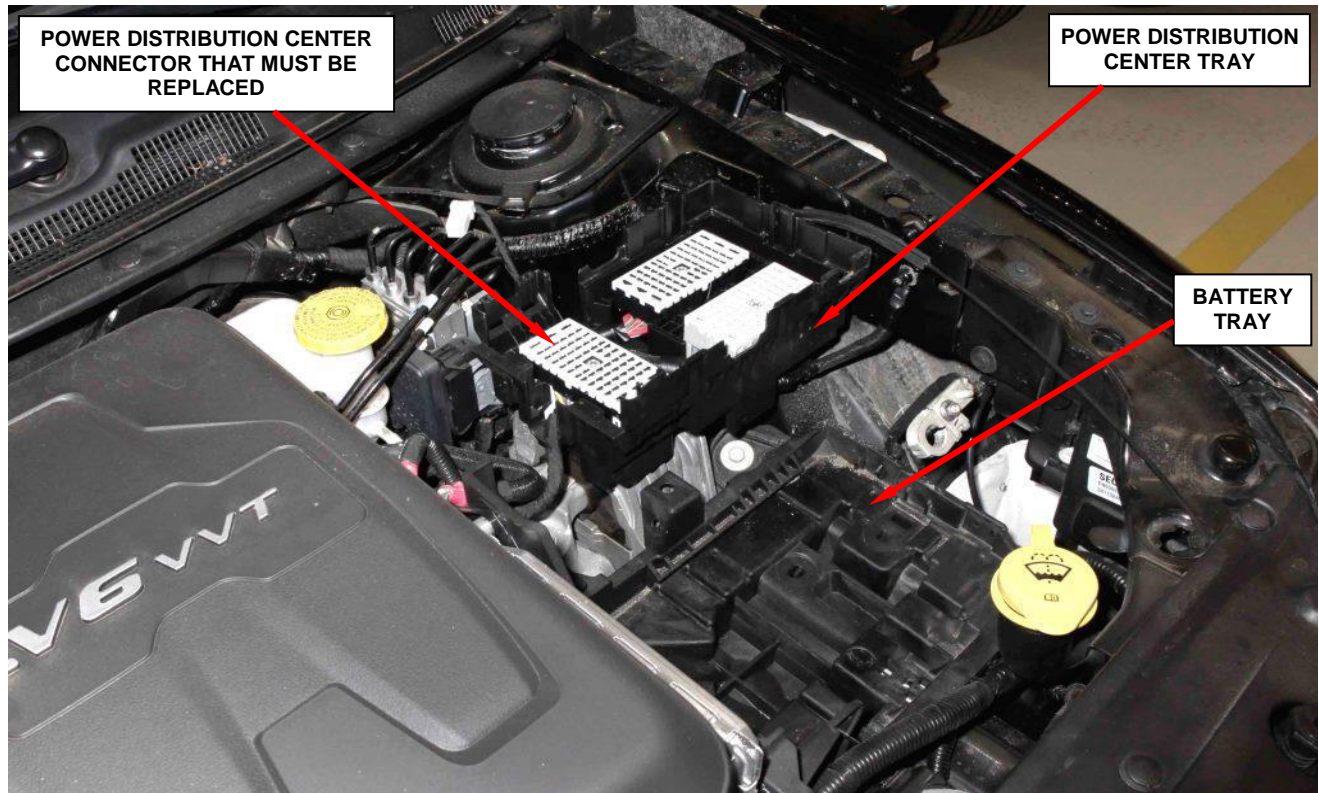

Figure 7 – Locate the Correct Electrical Connector
10. Locate the correct PDC electrical connector that is being replaced (Figure 7).